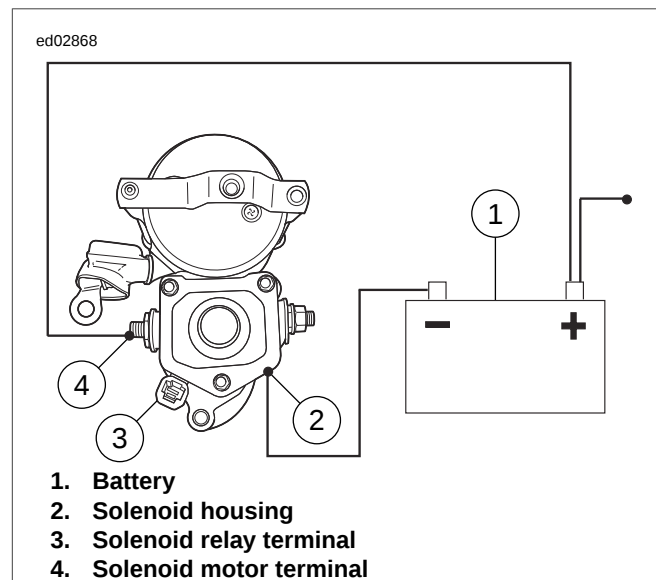

Figure 3-9. Return Test
1. See Figure 3-9. With test leads still connected in the manner specified at the end of 3.5 TESTING STARTER ON BENCH, Solenoid Hold-In Test, disconnect solenoid relay terminal/positive battery post test lead at either end.